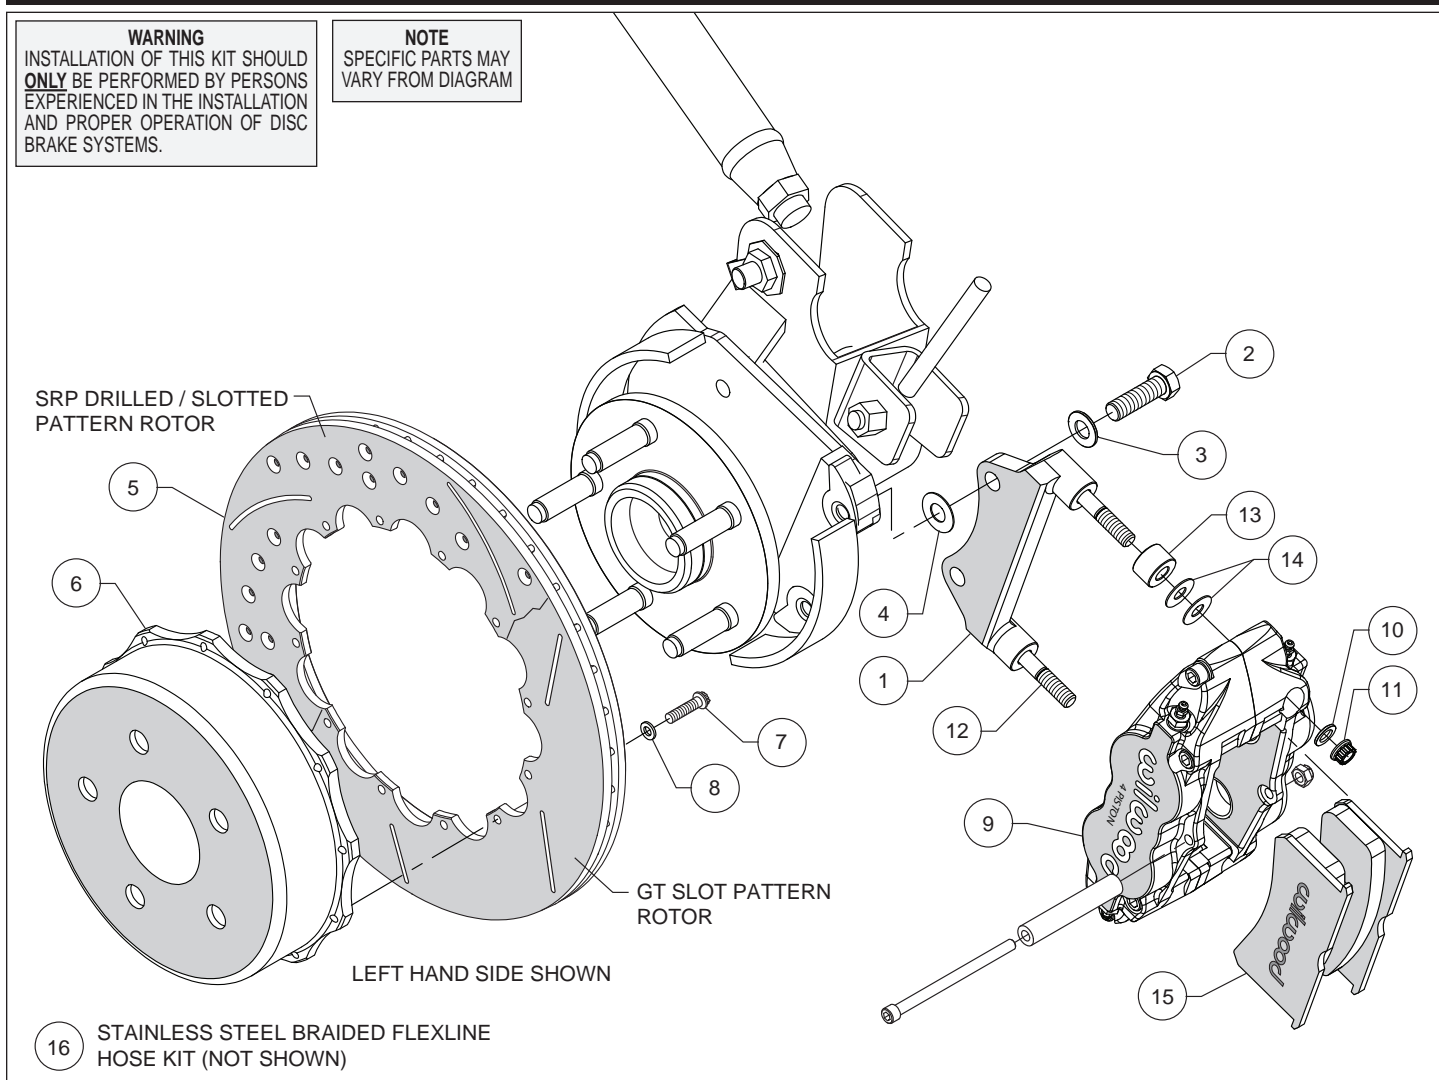
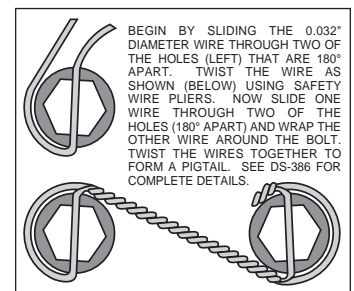

Figure 1. Typical Installation Configuration
Figure 3. Safety Wire Diagram
Assembly Instructions (numbers in parenthesis refer to the parts list and Figure 1 on the preceding pages):
- The caliper mount bracket (1) should initially be installed with clean, dry threads on the mounting bolts. Orient the bracket as shown in Figure 1, and install using mount bolts (2) and washers (3). Initially place one .033" thick shim (4) on each bolt between the bracket and upright, Figure 1. Temporarily tighten the mounting bolts. **NOTE:** The bracket must fit squarely against the mount bosses on the upright. Inspect for interference from casting irregularities, machining ridges, burrs, etc. Later, after the caliper alignment has been checked, the mount bolts will be secured using red *Loctite*[®] 271.
- Orient the rotor (5) and the hat (6) as shown in Figure 1 and Photo 2. Attach rotor to hat using bolts (7) and washers (8). Using an alternating sequence, apply red *Loctite*[®] 271 to the threads, and torque to 140 **in-lbs**. The bolts must be safety wired using standard 0.032 inch diameter stainless steel safety wire as shown in Figure 3. Please refer to Wilwood's data sheet DS-386 (available at www.wilwood.com/Pdf/DataSheets/ds386.pdf) for complete safety wire installation instructions.
- Lubricate the caliper mounting studs (12) with lightweight oil. Initially place one spacer (13) and two .035" thick shims (14) on each stud as shown in Figure 1 and Photo 4. Mount the caliper (9) onto the bracket (1) using lock nuts (11) and washers (10), Figure 1. Temporarily tighten the lock nuts and view the rotor through the top opening of the caliper. The rotor should be centered in the caliper, Photo 5. If not, adjust by adding or subtracting shims (4) between the bracket and the mounting bosses. Always use the same amount of shims on each of the two mounting bolts. Once the caliper alignment is correct, remove the bracket mounting bolts one at a time, apply red *Loctite*[®] 271 to the threads, and torque to 60 ft-lb.